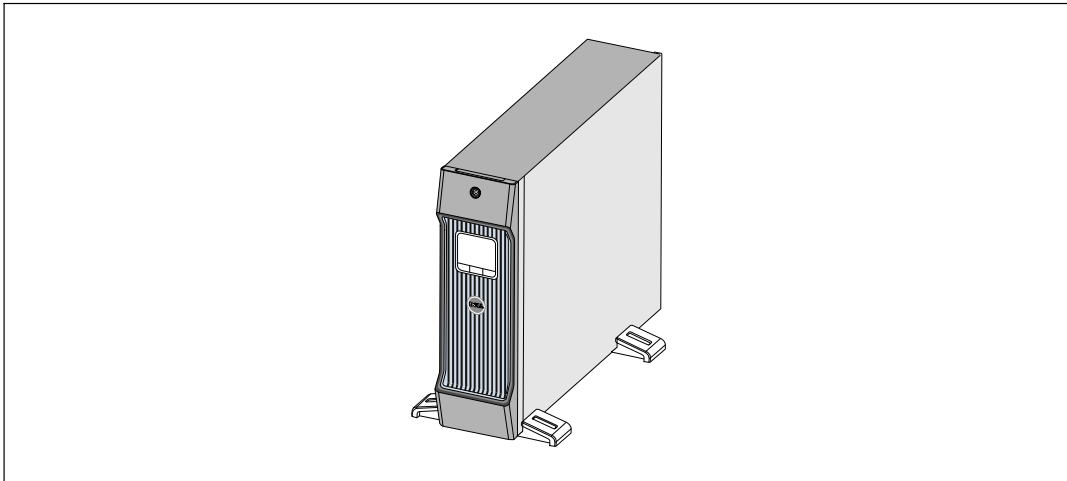

Figure 25. Tower Configuration
- 9 Carefully position the cabinet upright (see Figure 25).